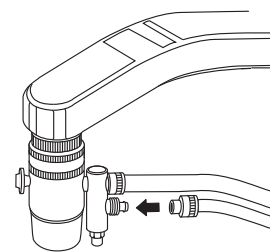

Fig. 8
3. **Firmly push** the large tube onto the large barb and the small tube onto the small barb (Fig. 8).